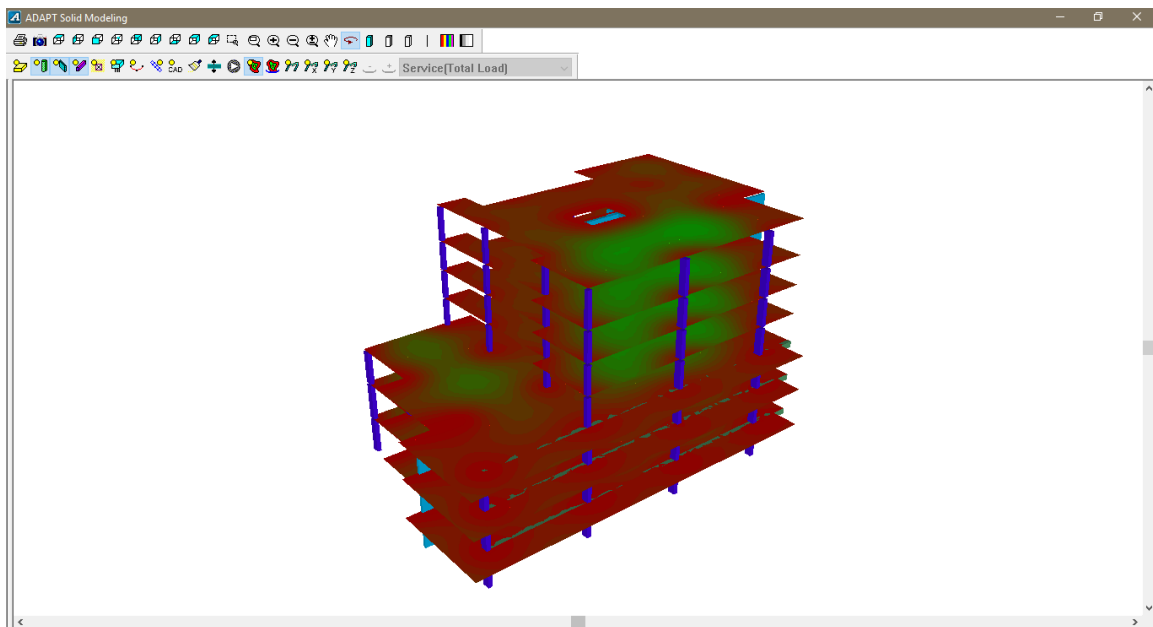

Figure 6-10
- If we left click on the screen and hold the left click button of the mouse you can then rotate the model with movements from the mouse. Rotate the model so that the view is similar to that shown in **FIGURE 6-10**.